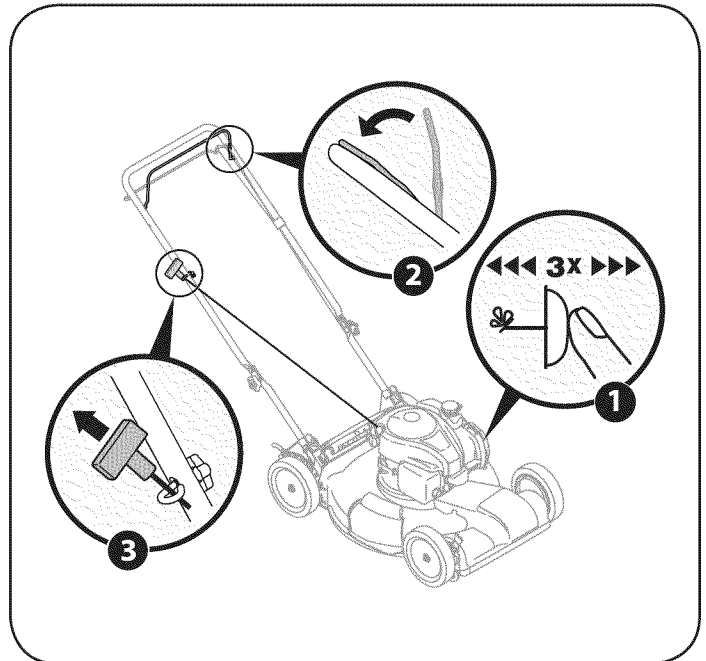

Figure 13
1. Push the primer three times. See Figure 13. Do not prime to restart a warm engine.
3. Holding these two handles together firmly, grasp recoil starter handle and pull rope slowly until resistance is felt, then pull with a rapid, continuous, full arm stroke. See Figure 13. Keeping a firm grip on the starter cord handle, let the rope rewind slowly. Repeat until engine cranks. Let the rope rewind each time slowly.